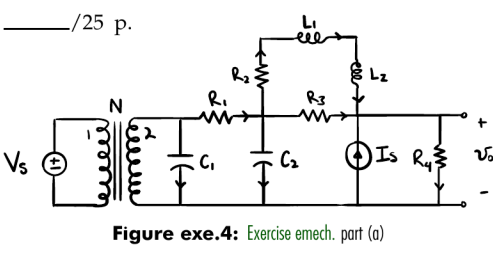

Figure exe.3: a linear graph model with normal tree in green of the electromechanical system of Exercise emech, with a gear reduction.
Consider the linear graph model (with normal tree) of Fig. exe.3. This is a model of a motor with constant K_m connected to a pair of meshing gears with transformer ratio N , the output over input gear ratio. An ideal voltage source drives the motor—modeled as an ideal transducer with armature resistance R and inductance L . The motor's rotational mechanical side (2) is connected to a moment of inertia J_2 modeling the rotor and drive gear combined inertia. The damping element B_2 models the internal motor damping and the drive gear bearing damping. The output side of the gear transducer (4) is connected to a moment of inertia J_4 modeling the rotor and drive gear combined inertia. The damping element B_4 models the internal motor damping and the drive gear bearing damping. Use the parameter values given in Table exe.1.